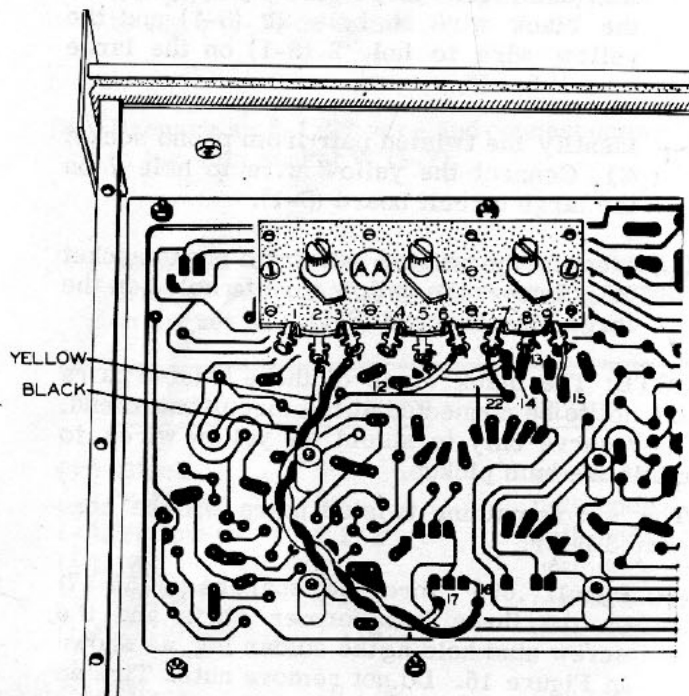

Figure 17
- ( ) As shown in Figure 17, install a triple 250 K $\Omega$  control (#13-3) at AA, on the indicated pair of phenolic spacers. Use 3-48 screws.
- ( ) Connect the wire from hole 22 to lug 7 (NS) of control AA.